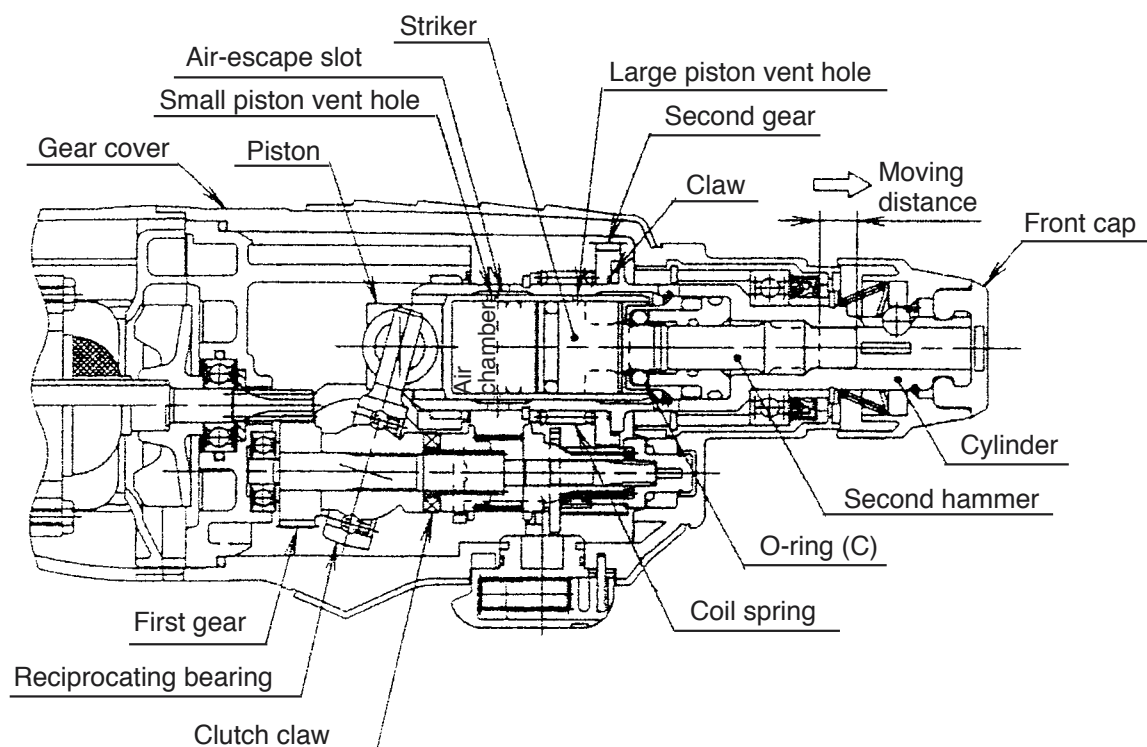

Fig. 4
The idle hammering prevention mechanism in the Model DH 24PF3 is different from that of conventional rotary hammers. When the drill bit is lifted from the work surface on completion of drilling, the second hammer moves to the position indicated by the continuous lines in Fig. 4 and the protruding (lip) portion at the tip of the striker is gripped by O-ring (C) mounted between the hammer holder and the damper holder. In this state, should the piston continue to move so that the small piston vent hole is blocked by the inner wall of the cylinder, the air in the air chamber will pass through the large piston vent hole and be released through the air-escape slot and large cylinder vent hole provided on the inner wall of the cylinder. Accordingly, there is no change in the air pressure within the air chamber, and movement of the striker (idle hammering operation) is prevented. The gripping force of O-ring (C) on the striker is so small in comparison with the conventional mount system that practically no pressing force at all is required to restart the hammering operation.